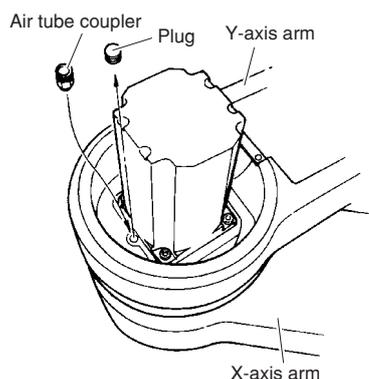

Fig. 5-73
- 6) Remove the plug on the top of the Y-axis arm. (See Fig. 5-73.)